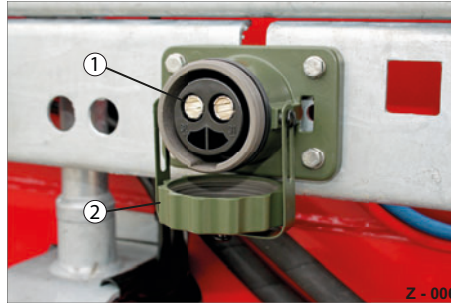

Abb. 10 NATO socket
- ▶ Unscrew the sealing cap (Abb. 10/2).